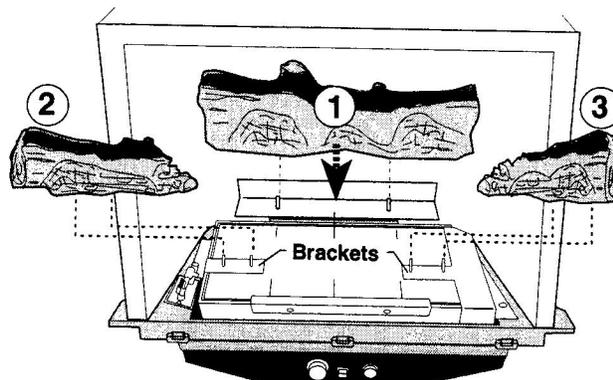

Figure 14. Install the Rear Log and Right and Left Logs
4. Install the Rear Log (1) by engaging it with the pins on the steel shelf at the back of the firebox. Fig. 14.
5. Install the Left (2) and Right (3) Middle Logs by engaging the burner bracket pins with the holes in the bottom of each log. Fig. 14.